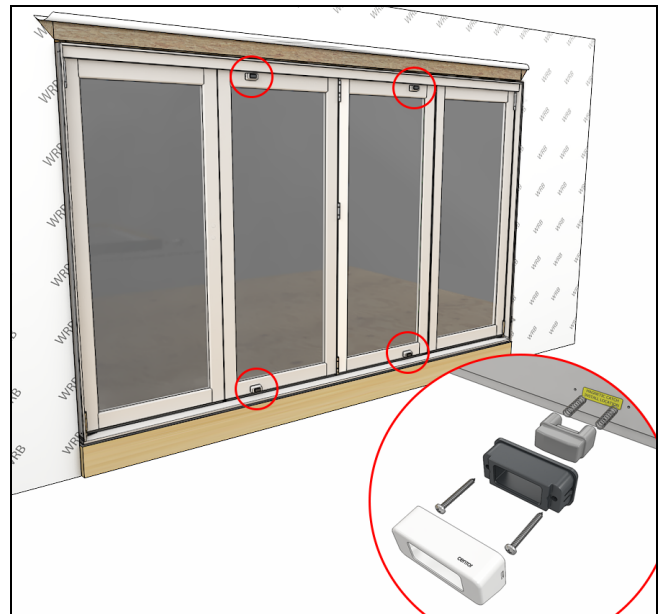

Figure 63
7. Locate any panels with the letter "M" on the end. (ELM for example). Install magnets on the top and bottom of the panels specified in the configuration diagram. See Figure 63. *Note: Verify magnet polarity. IE: The top of the panel should have a North polarity and the adjacent panel that it connects to should have a South polarity causing an attraction effect. If a North Polarity is at the top of both panels, the panels will act like the unit is binding during operation preventing smooth operation.*